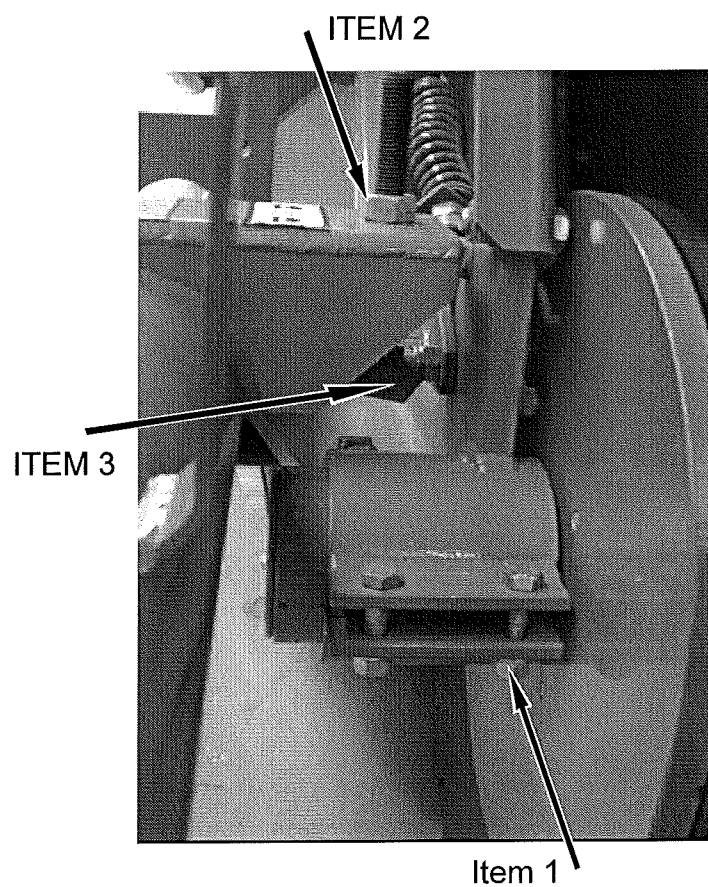

Fig 7.6
To adjust the discs for width, slacken clamp bolts (fig 7.6 item 1) on the disc hub mounting and slide the disc hub in or out to the required position. Retighten clamp bolts. As a guide the discs should be adjusted so that the inner faces are approximately 5 mm from the outside edge of the share blades.
Upward stop (fig 7.6 item 3), by loosening lock nut (fig 7.6 item 3), rotating stop item 3 to new position and then retighten lock nut.